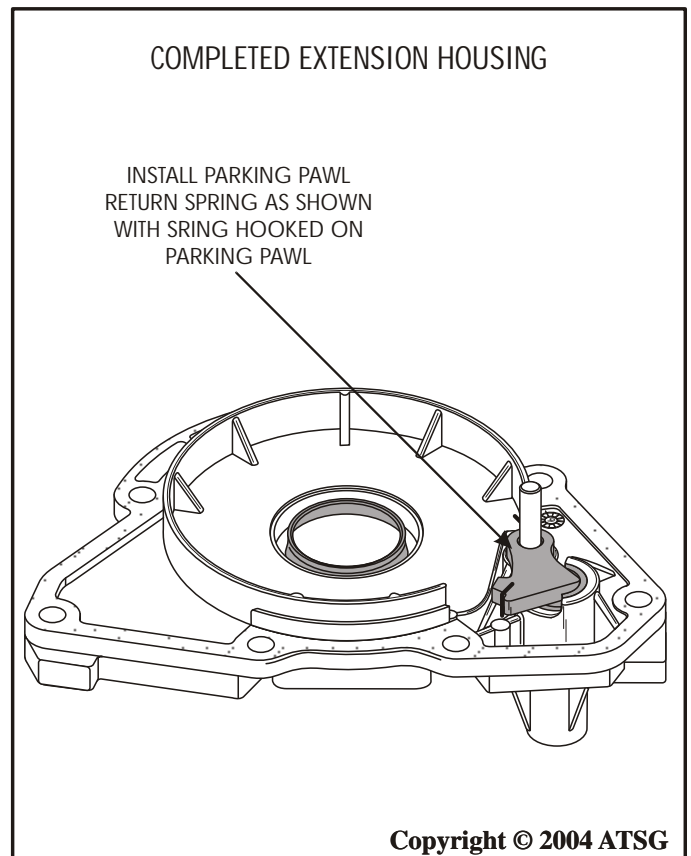

Figure 128
8. Install the parking pawl over the pivot pin and hook the return spring on the parking pawl, as shown in Figure 128.